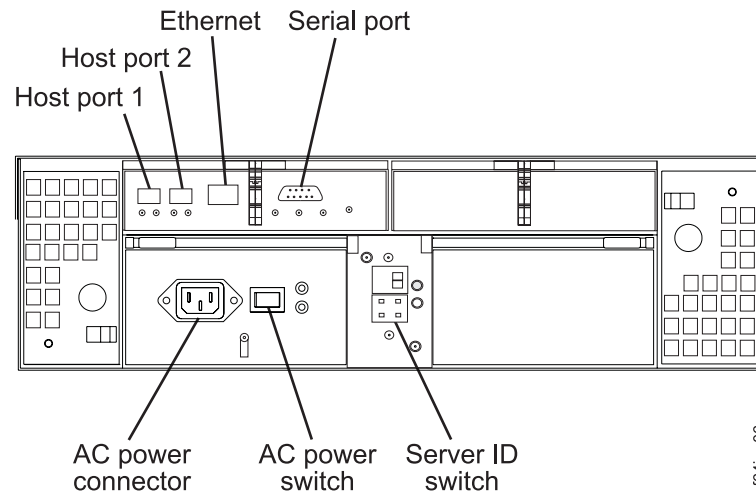

Figure 37. Location of host cables (Model 6LU/6LX)
2. Connect the host-system Fibre Channel cables between the RAID controller host ports and the HBA ports or Fibre Channel switch ports. Figure 37 shows the location on the RAID controller where the host-system Fibre Channel cables connect.